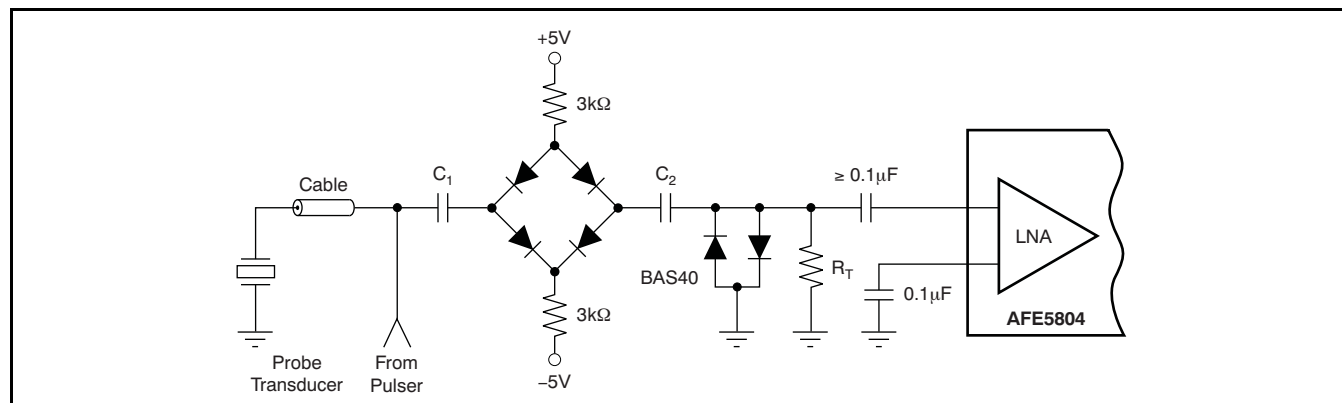

Figure 100. Typical Input Overload Protection Circuit of an Ultrasound System
The AFE5804 is designed in particular for ultrasound applications where the front-end device is required to recover very quickly from an overload condition. Such an overload can either be the result of a transmit pulse feed-through or a strong echo, which can cause overload of the LNA, PGA, and ADC. As discussed earlier, the LNA inputs are internally protected by a pair of back-to-back diodes to prevent severe overload of the LNA. Figure 100 illustrates an ultrasound receive channel front-end that includes typical external overload protection elements. Here, four high-voltage switching diodes are configured in a bridge configuration and form the transmit/receive (T/R) switch. During the transmit period, high voltage pulses from the pulser are applied to the transducer elements and the T/R switch isolates the sensitive LNA input from being damaged by the high voltage signal. However, it is common that fast transients up to several volts leak through the T/R switch and potentially overload the receiver. Therefore, an additional pair of clamping diodes is placed between the T/R switch and the LNA input. In order to clamp the over-voltage to small levels, Schottky diodes (such as the BAS40 series by Infineon®) are commonly used. For example, clamping to levels of $\pm 0.3\text{V}$ can significantly reduce the overall overload recovery performance. The T/R switch characteristics
As Figure 100 shows, the front-end circuitry should be capacitively coupled to the LNA signal input (IN). This coupling ensures that the LNA input bias voltage of $+2.4\text{V}$ is maintained and decoupled from any other biasing voltage before the LNA.
Within the AFE5804, overload can occur in either the LNA or the PGA. LNA overload can occur as the result of T/R switch feed-through; and the PGA can be driven into an overload condition by a strong echo in the near-field while the signal gain is high. In any case, the AFE5804 is optimized for very short recovery times, as shown in Figure 100.